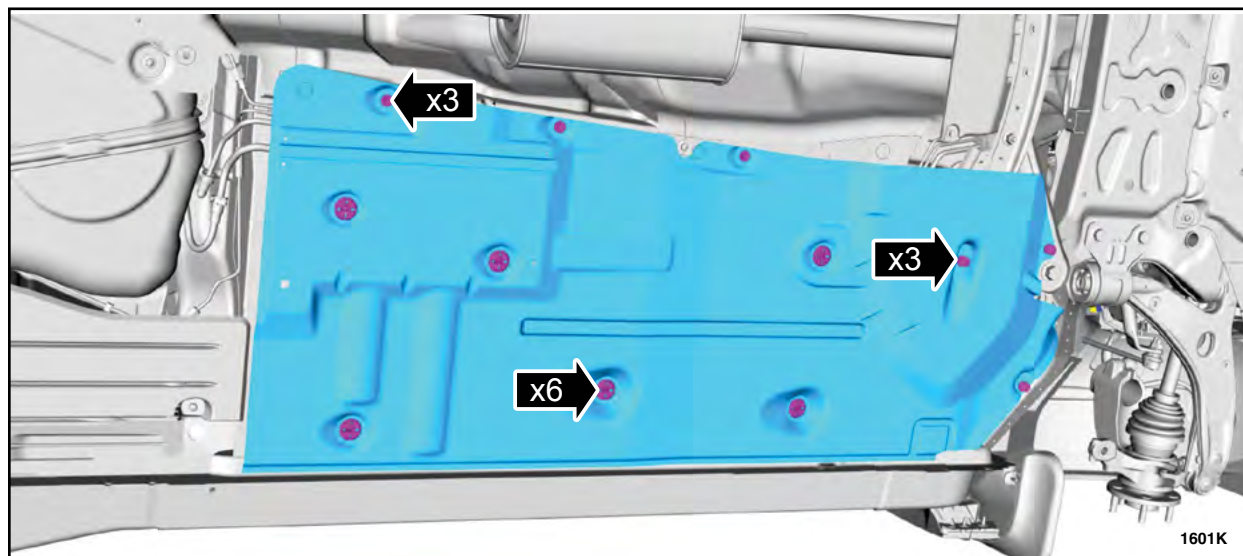

FIGURE 1
1. Remove the retainers and the LH splash shield. See Figure 1.
3. Remove the retainers and the RH splash shield. See Figure 1.
10. Install both RH and LH splash shields and the retainers. See Figure 1.